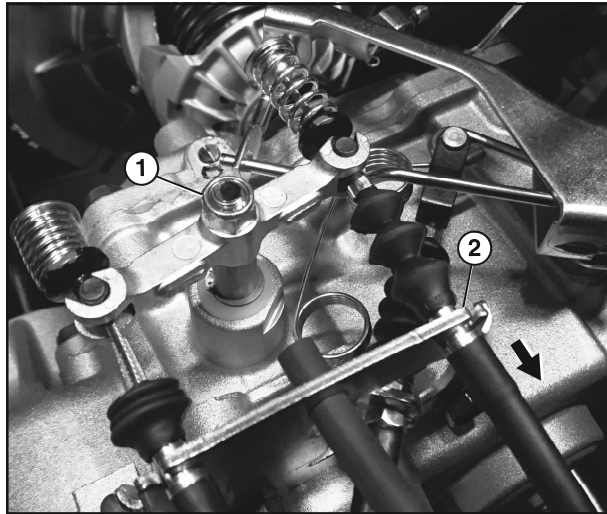

Figure 6-66
11. Remove nut (**Figure 6-66, (1)**) from the shifter shaft.
12. Pull the cables back out of the cast bracket on the transmission and slide the inner cables out of the slot (**Figure 6-66, (2)**).